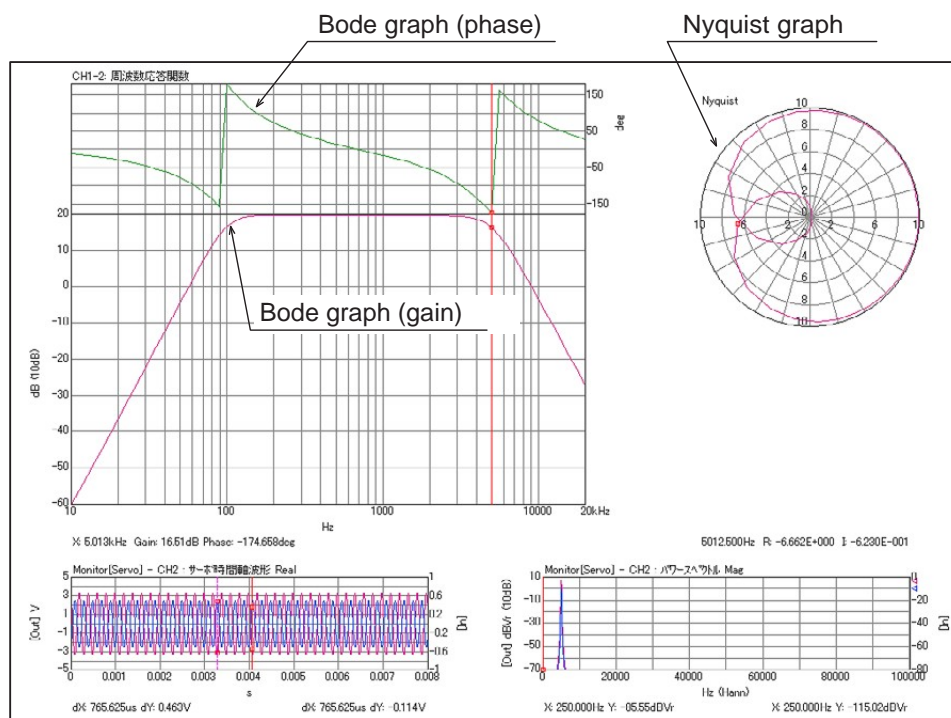

Figure 3: Example of filter frequency characteristics (FRA mode)
7. Start the measurement by pressing [START] button on the command tool bar. The measurement result is displayed in the figure 3. The measurement time is approx. 24 seconds in this condition.